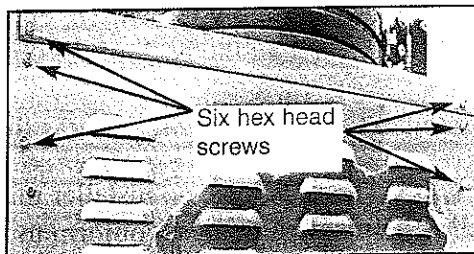

Fig. 9
1. Start by removing the six 1/4" hex head screws on each side of the grill. (See Fig. 9)